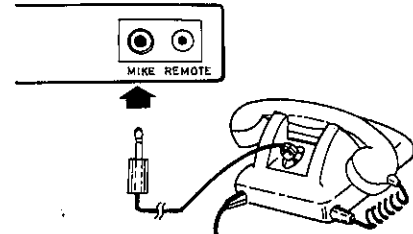

Fig. 10
1. Attach the suction cap of the telephone pick-up (SANYO model TL-20 or TL-30 is available optional extra) to the telephone case and plug the cord into the MIKE (or MIC) socket of the unit (Fig. 10).